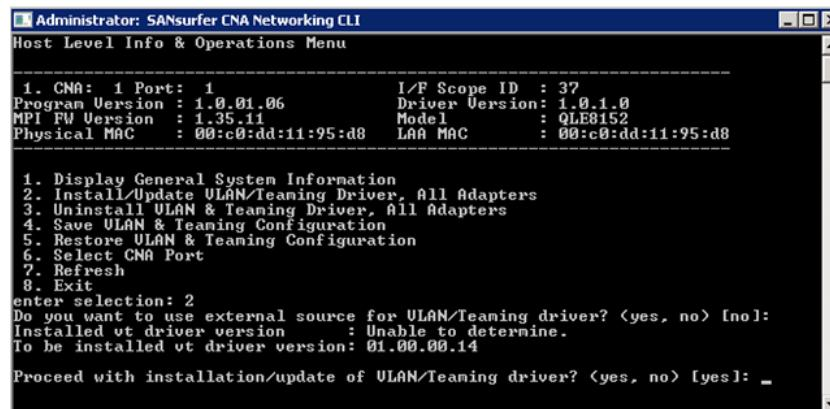

Figure 6-17. Installing VLAN Teaming Driver
5. At the prompt, Do you want to use external source for VLAN/Teaming driver?, choose one of the following (Figure 6-17):